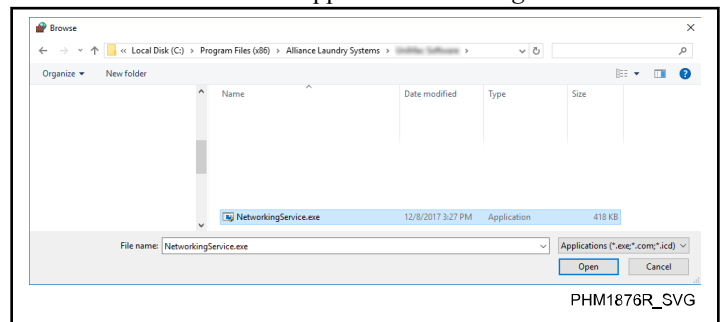

Figure 43
5. From the "Add a Program" window, click the **Browse** button. The "Browse" window appears. Refer to *Figure 43*.